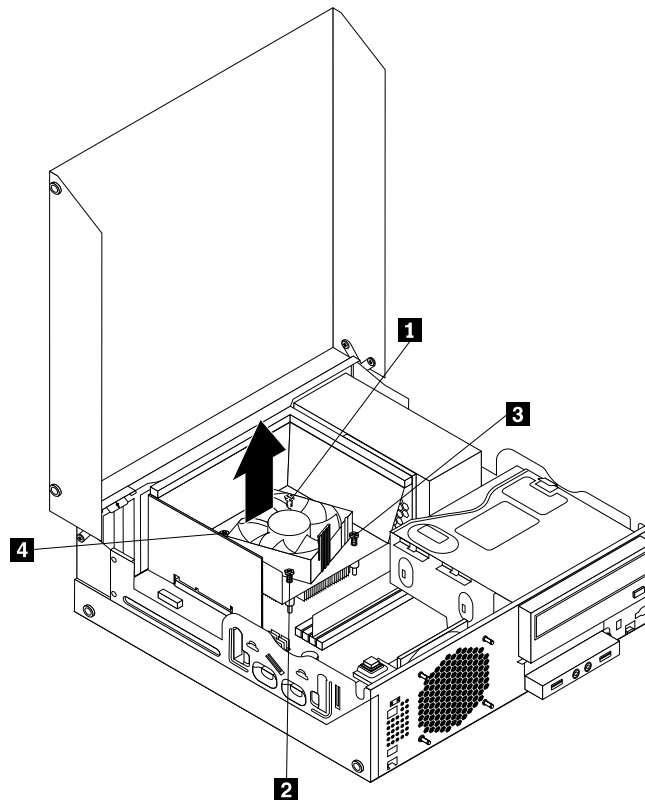

Figure 126. Screws that secure the heat sink and fan assembly
8. Follow this sequence to install the four screws to secure the new heat sink and fan assembly, as shown in Figure 126 “Screws that secure the heat sink and fan assembly” on page 182: